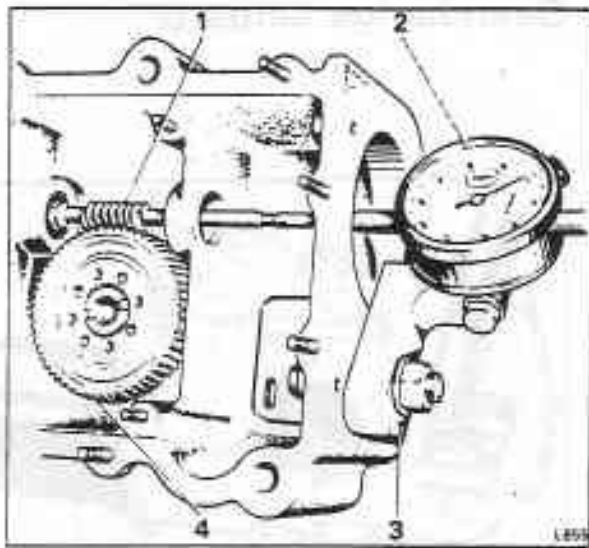

Fig. T5-2 Checking wormshaft end-float
6. Adjust the end-float of the wormshaft to between 0,005 mm and 0,012 mm (0.002 in and 0.005 in) using a suitable washer. Fit the circlip. Check the end-float on the end of the shaft using a dial indicator gauge (see fig. T5-2).